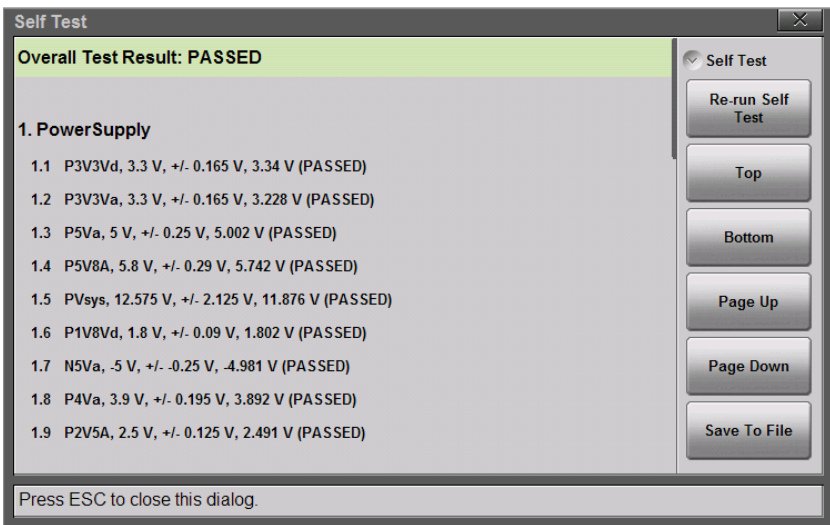

Figure 11-1. Site Master Self Test
1. Press the **System (8)** key.
2. Press the Diagnostics submenu, then **Self Test**. The test starts, and the results are displayed in the dialog box (Figure 11-1).
<p>System Info</p> <hr/> <p>System Setups</p> <hr/> <p>Connectivity</p> <div style="border: 1px solid gray; padding: 5px; margin: 5px 0; text-align: center;">GPS</div> <div style="border: 1px solid gray; padding: 5px; margin: 5px 0; text-align: center;">Ethernet Configuration</div> <hr/> <p>Diagnostics</p> <div style="border: 1px solid gray; padding: 5px; margin: 5px 0; text-align: center;">Self Test</div>	<p>Connectivity</p> <p>GPS: Press to display the “GPS Menu” on page 11-24.</p> <p>Ethernet Configuration: Press this submenu key to display the “Ethernet Configuration Menu” on page 11-26, which displays the IP Address and MAC Address of the instrument and allows you to choose the setting for obtaining the IP Address (DHCP or Static).</p> <p>Diagnostics</p> <p>Self Test: Press this submenu key to initiate a series of diagnostic tests that check the components of the instrument. A display lists the individual tests with a pass or fail indication (Figure 11-1 on page 11-2). Press Esc to close the dialog box.</p> <p>Press Save to File to create a text file of the test results. The file is saved to internal memory and labeled S820ESelfTest#X.txt. The .txt file can be copied to a USB memory device and viewed on a PC with a text reader or word processor.</p>